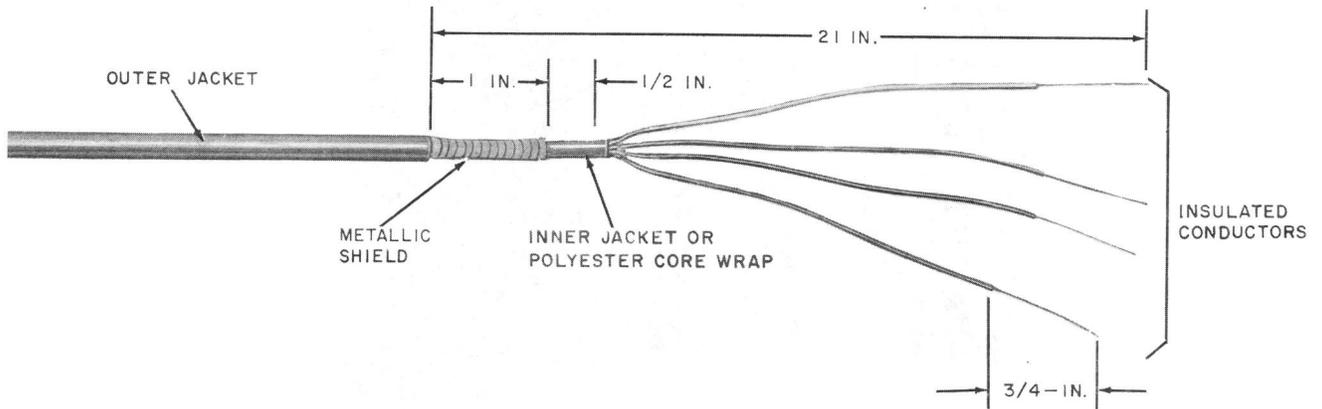

Fig. 15—♦Prepared Service Wire—E Cable Closure♦
5.06 Prepare service wire as illustrated in Fig. 15.
5.08 Prepare service wire for J cable closure the same as for E cable closure. Refer to Fig. 15.